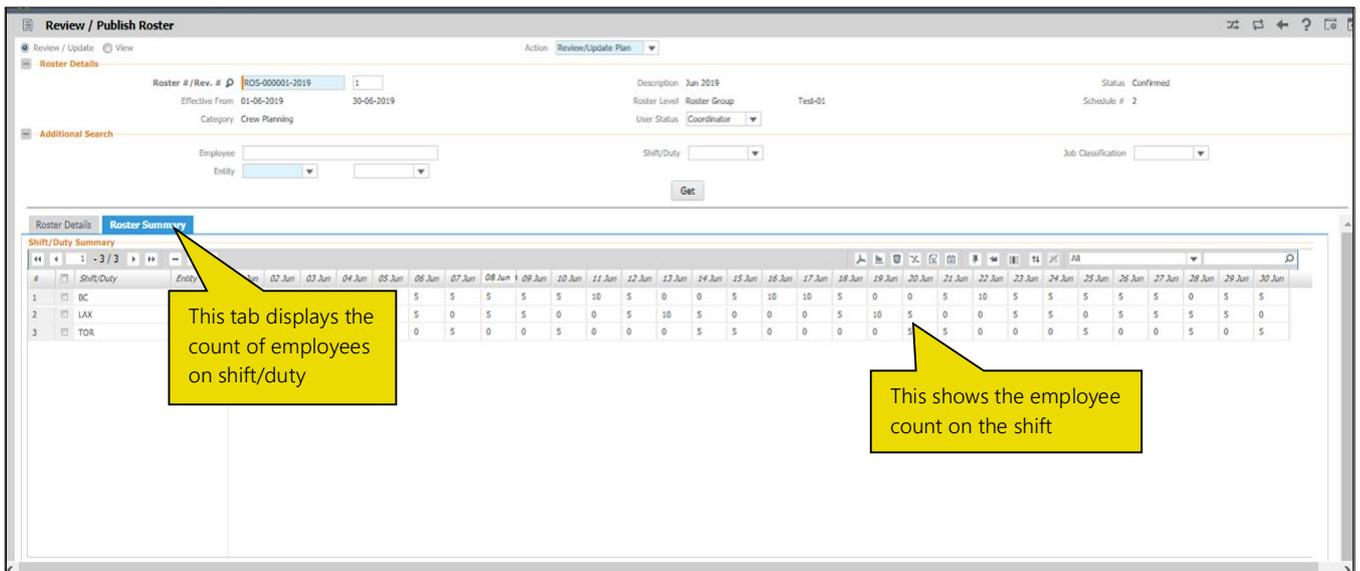

Figure 2.12 Review/Publish Roster Summary tab
1. **Roster Summary** tab displays the shift/duty wise employee count for the individual days of the roster period. See *Figure 2.12*.